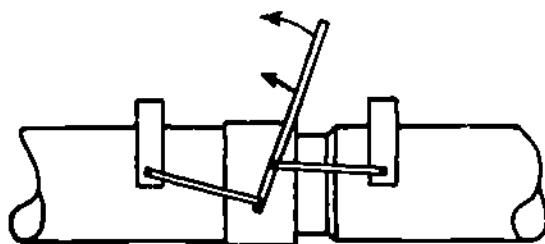

Figure 5-5. Frame Puller
k) Another type of puller that may be used to assemble asbestos cement pipe and fittings is a "frame puller." It consists of two frames that clamp the pipe on each side of the coupling. The frames are joined by two handle assemblies that form two levers between the clamps. When pressure is applied to the levers, the frames tighten on the pipe, giving a positive pull between the two pipes. A frame puller is shown in Figure 5-5.